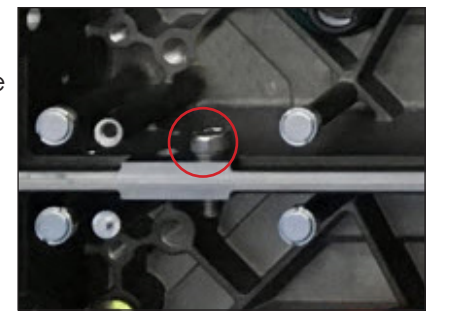

Figure 27: Assemble Panels with Socket-Head Screws
- Use a 5 mm Allen wrench and socket-head stitch screws to attach the panels together, but do not tighten the screws. Refer to **Figure 27**.